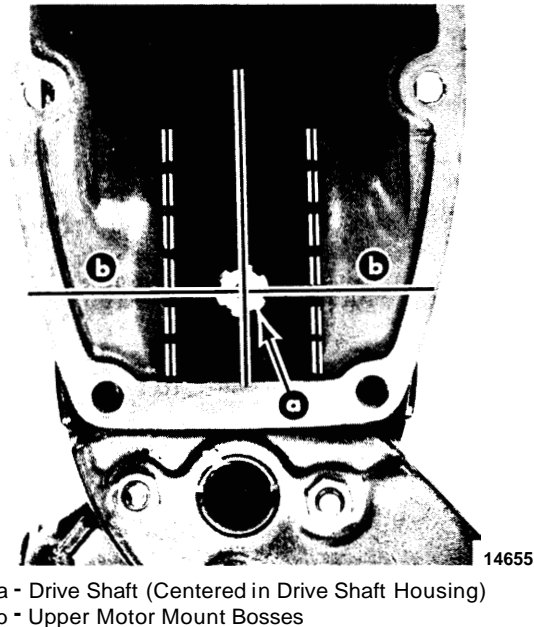

Figure 1. Top View of Drive Shaft Housing
3. Viewing the drive shaft housing from **top** end, check the position of the top end of the drive shaft in relation to the drive shaft housing. (Figure 1)